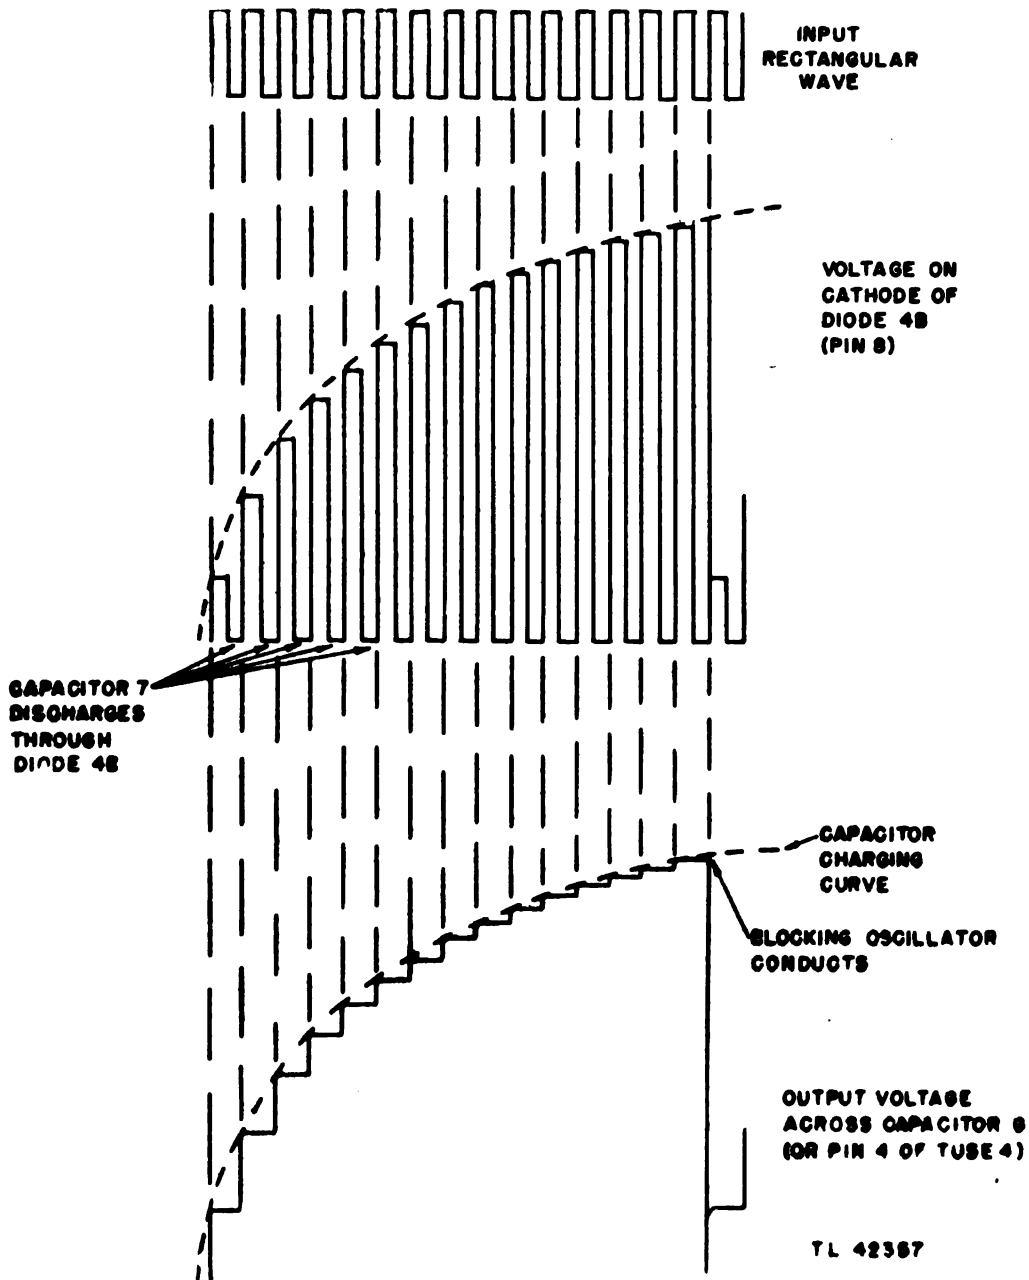

Figure 48. Counter circuit, waveform development.
b. When the positive half-cycle of the rectangular input wave occurs, capacitor 8 charges to about  $\frac{1}{23}$  of this voltage and capacitor 7 to  $\frac{22}{23}$ . This voltage represents the first step. (See fig. 48.) On the next half-cycle, when 5A conducts and the voltage of the rectangular wave drops sharply, the lower plate of capacitor 7 and the cathode (pin 8) of diode 4B become negative with respect to ground; and capacitor 7 discharges through the diode the charge it accumulated during the positive half-cycle. Capacitor 8, however, has no discharge path and retains its charge.